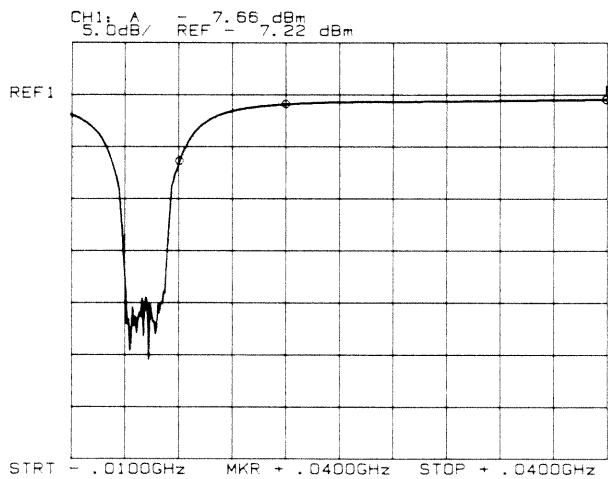

Figure 4-2. Trace Before Adjustment
3. On the HP 8756A Channel 2, press **[SHIFT] [MEAS RATIO]** to turn Channel 2 off. On Channel 1, press **[MEAS PWR]** until the **A** LED is on. Press **[REF]** until the **POSN** LED is on, and use the step keys or knob to move the **REF POS** one line down from the top CRT graticule. Press **[SHIFT] [SCALE]**. A response dip similar to Figure 4-2 should be visible on the display. This dip is formed because the sweeper is a heterodyned source (in Band 1), sweeping through low frequencies where it is incapable of generating output power. The middle of this response dip is the "ZERO FREQUENCY" point.